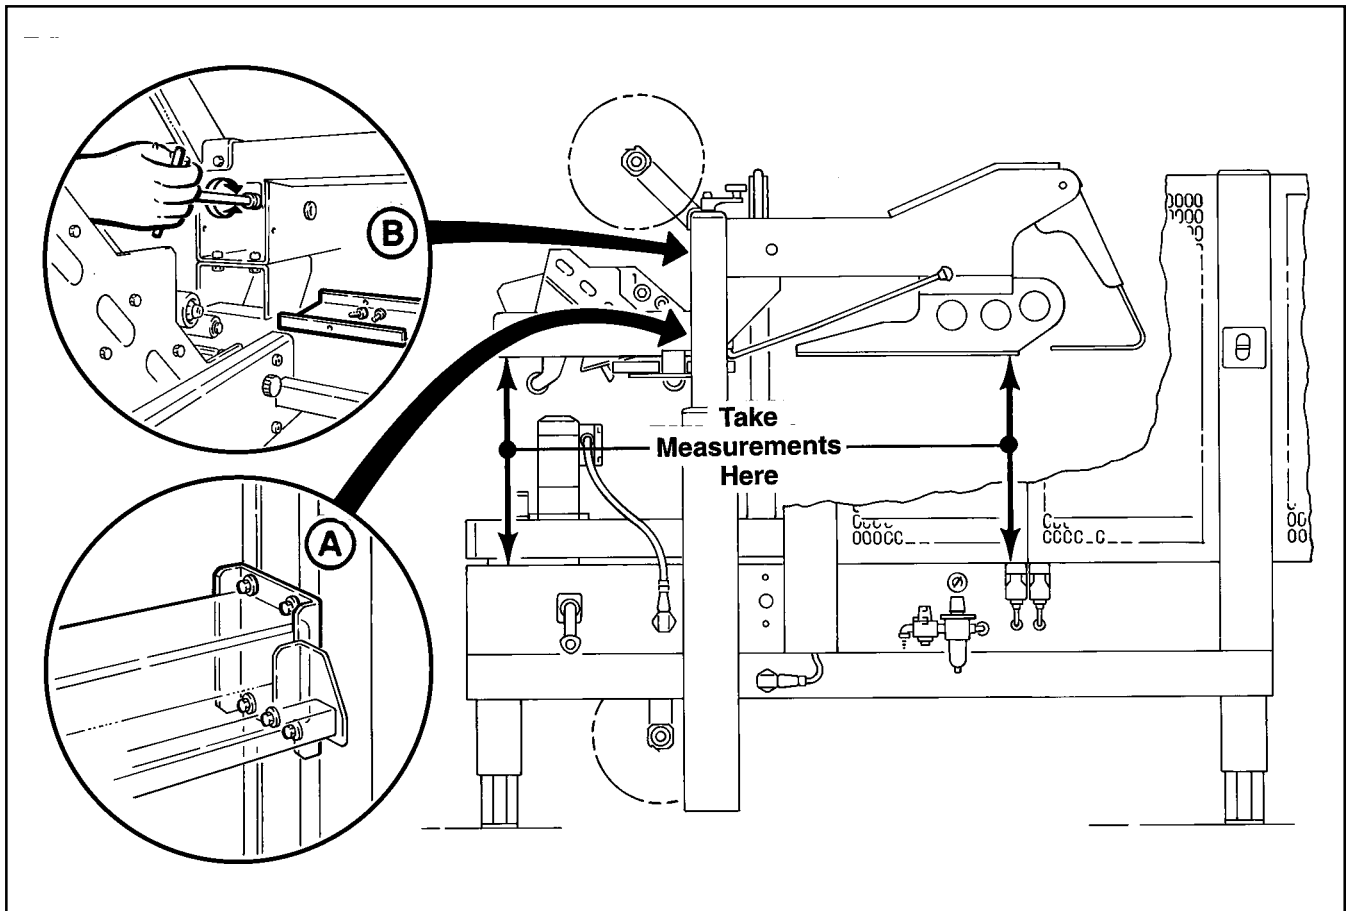

Figure 5-2 – Upper Taping Head Leveling
3. Take measurement from exit end of upper head assembly and front of flap folding ski to machine bed, as shown in Figure 5-2. Upper assembly must be level  $\pm 1.5$  mm [ $\pm 1/16$  inch].